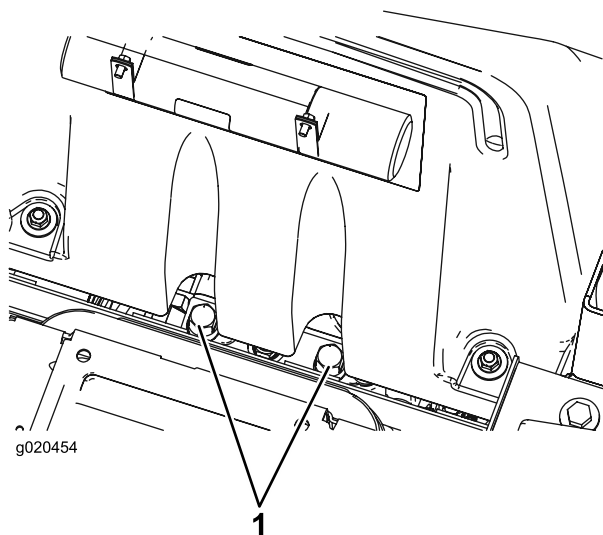

Figure 52
1. Raise the seat and locate the bypass valves, which are located below the front of the fuel tank (Figure 52).